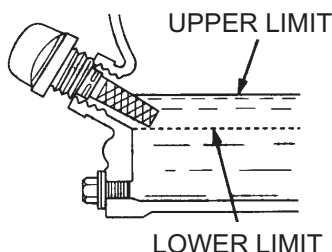

Figure 4. Engine Oil Dipstick
4. If the oil level is low (Figure 4), fill to the edge of the oil filler hole with the recommended oil type (Table 3). Maximum oil capacity is 400 cc.